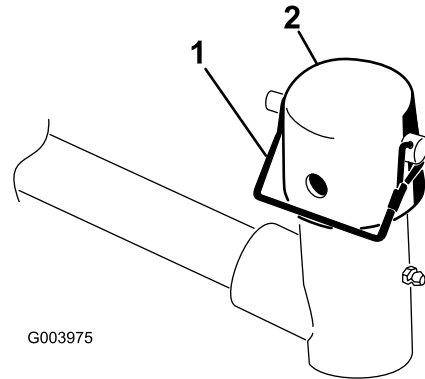

Figure 9
2. Remove the snapper pin and the cap from the lift-arm pivot yoke (Figure 9).
**Note:** Use the slot if a steering cutting unit is desired or use the hole if the cutting unit is to be locked in position (Figure 9).